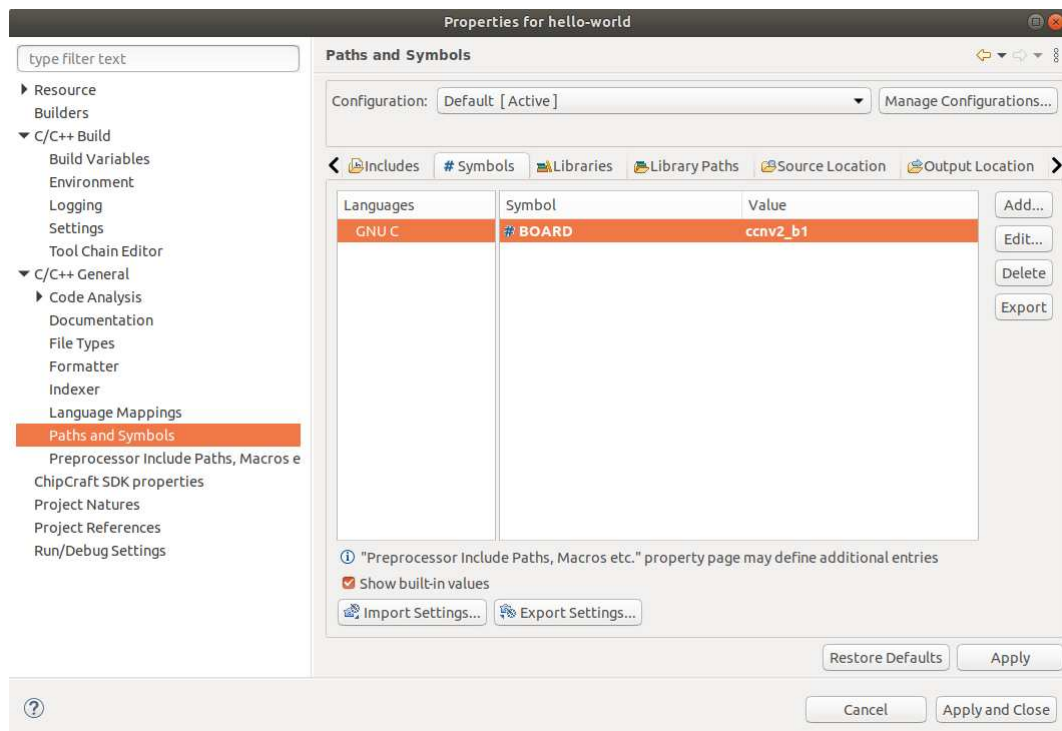

Figure 2.28. Preprocessor symbols configuration.
**Symbols** tab (figure 2.28) allows configuration of C preprocessor definitions. Similarly to *Includes* tab you can use environment and build variables during symbol definition. Definitions are independently defined for each language (C, C++).